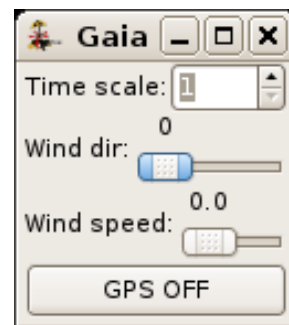

Figure 1.4: Environment Simulator
- (a) From the **Tools** menu in the Paparazzi Center, run an **Environment Simulator** agent. The agent is listed in the running agents and a new window (named **Gaia**) pops (figure 1.4).